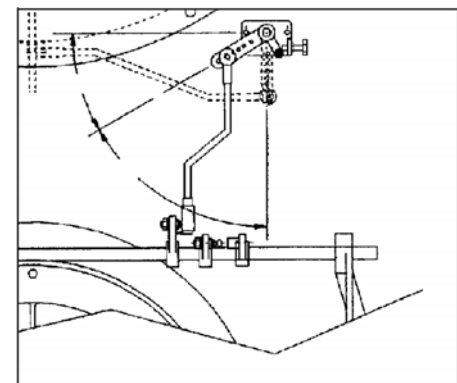

FIGURE 1-11. Over travel and fuel change-over linkage
9. Over-Travel Mechanism (**Figure 1-11**): The over-travel mechanism has two functions. It allows the linkage to pass through the front door, and it allows jackshaft rotation to exceed (over travel) IFGR linkage movement. A set of springs allows the linkage to stay in a fixed position while the jackshaft rotates.
10. Fuel Change-Over Linkage (**Figure 1-11**): When a boiler is equipped to fire either gas or oil (dual-fuel boilers), and the required NO_x levels are below 60 ppm on natural gas, a dual linkage arrangement is used to provide the different recirculation rates required for each fuel. Two jackshaft drive arms are provided, one for oil and one for gas. The linkage is manually connected to the appropriate arm, based on the fuel being used. On dual-fuel boilers with two jackshaft drive arms, as defined above, a proximity switch is used to prove that the correct linkage connection is made. (Refer to the wiring diagram provided with the boiler.)